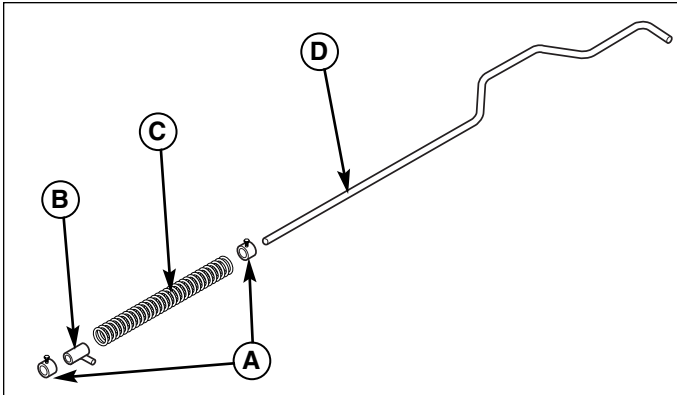

Figure 19. Lift Rod Assembly
1. Assemble lift rod per Figure 19.